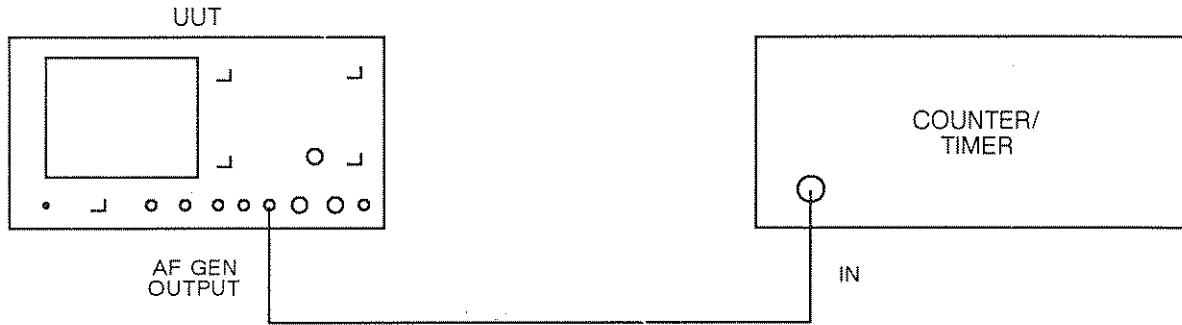

Fig. 5-14 Test equipment connections for AF generator frequency accuracy
- (1) Connect the equipment as shown in Fig. 5-14.